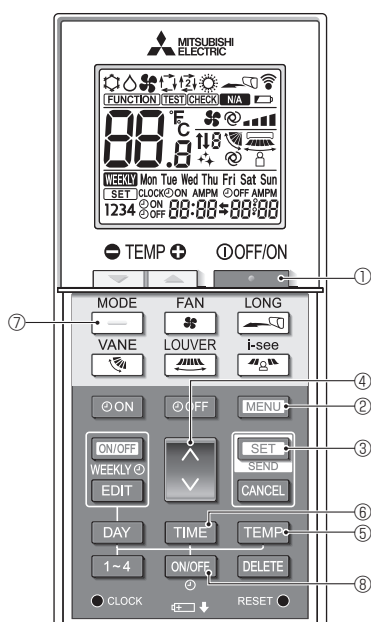

Fig. 7-11
1. Press the **STOP** button ① to stop the air conditioner.
2. Press the **MENU** button ②. The Function setting screen will be displayed and the function No. ④ will blink. (Fig. 7-11) Press the **DAY** button ④ to change the function No.